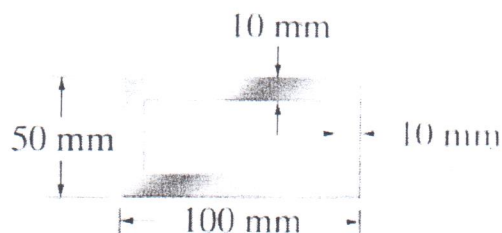

Figure 5.
- (8) Solve problem (7) if the column is fixed supported at its bottom and pinned at its top.
- (9) An A-36 steel column ($E = 200 \text{ GPa}$) has a length of 5 m and is fixed supported at both ends. If the cross-sectional area has the dimensions shown in **Figure 5**, determine the critical load.